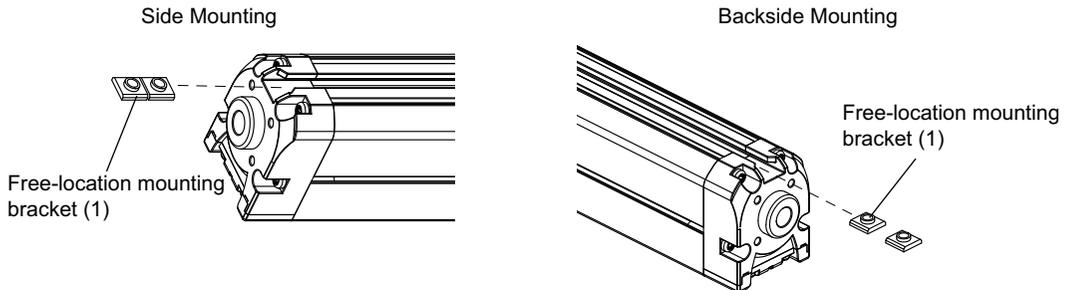

Figure 16
1. Insert the free-location mounting brackets to the T-slot in the back side of the sensor, placing the protrusion of the free-location mounting bracket (1) to the outside of the slot. (Figure 16)